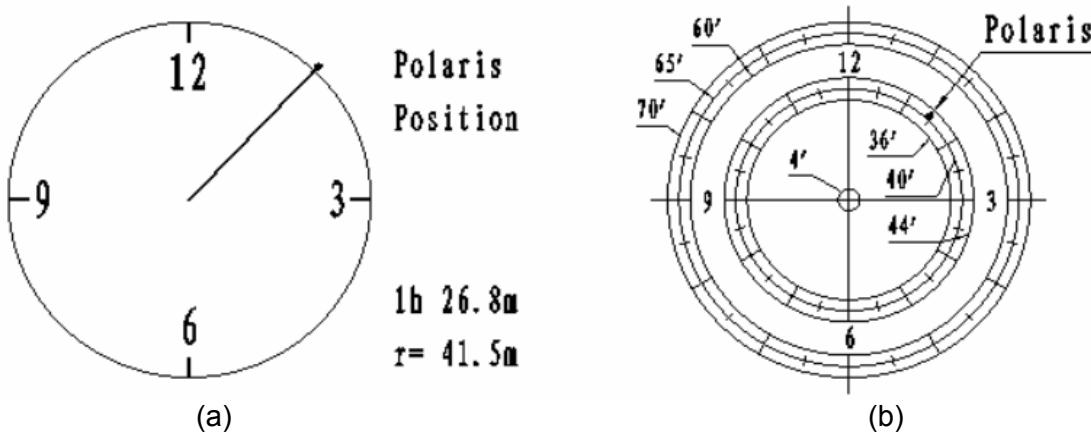

Figure 13
- (1) Turn on the mount power by pressing the **On/Off** switch on the R.A. unit. Pressing the **MENU** button, then select “**Align**” and “**Pole Star Position**”. For example, on May 30, 2010, 20:00:00 in Boston, US (Lat N42°30'32" and Long W71°08'50"), 300 min behind UT, the Polaris Position is 1hr 26.8m and r= 41.5m, as shown in Figure 13 (a).
- (2) Look through the polar scope; make sure the polar scope is not blocked by the DEC axle. The 12 o'clock indicator of the Polar Scope Dial must be positioned on top.
- (3) Follow the **Polar axis adjustment** procedure (**not the hand controller**) to adjust the mount in altitude (latitude) and azimuth (heading) direction and place Polaris in the same position on the Polar Scope Dial as indicated on the HC LCD. In this case, the Polaris will be located at a radius of 41.5' and an angle of 1 hour 26.8 minute, as shown in Figure 13 (b).
Remove the CW Safety Screw on the end of the CW shaft. Loosen the CW Locking Screw on the side of the CW (there is a CW pin inside) and slide the CW into the shaft as shown in Figure 13(a). Tighten the CW Locking Screw to hold the CW in place. Tighten the CW Safety Screw.